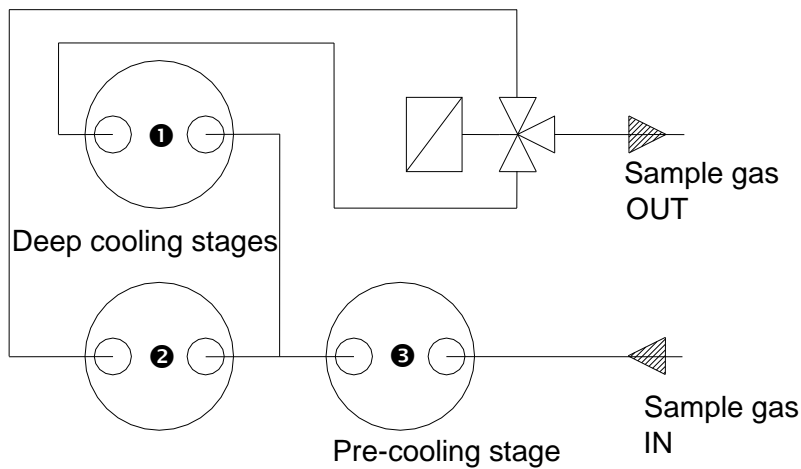

Figure 4 Tubing of the heat exchangers
Stages **1** and **2** (see fig. 1) of the gas cooler work intermittently at intervals of three hours. While one stage is in operation, the other one is automatically defrosted. All the heat exchangers are easily accessible and are arranged in such a way that they can be removed very simply. Switching over the gas flow is done by a 3/2-way solenoid valve made of PVDF/Viton (see fig. 4). This arrangement excludes any possibility of water vapour being sucked back from the low-temperature stage that is being defrosted.
The hoses for the heat exchangers are connected as shown in figure 4.
Exit hose of the low-temperature stage ① (fig. 4) is marked red.